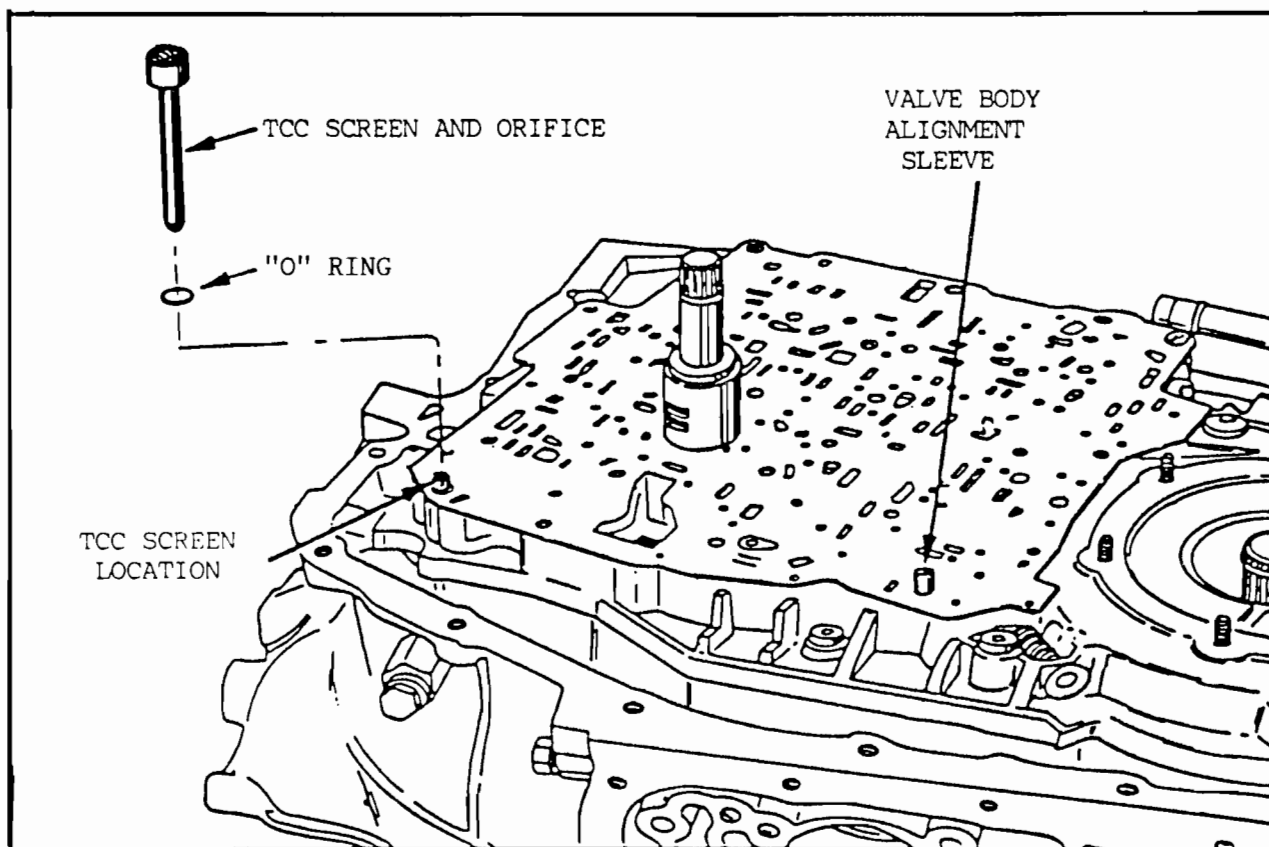
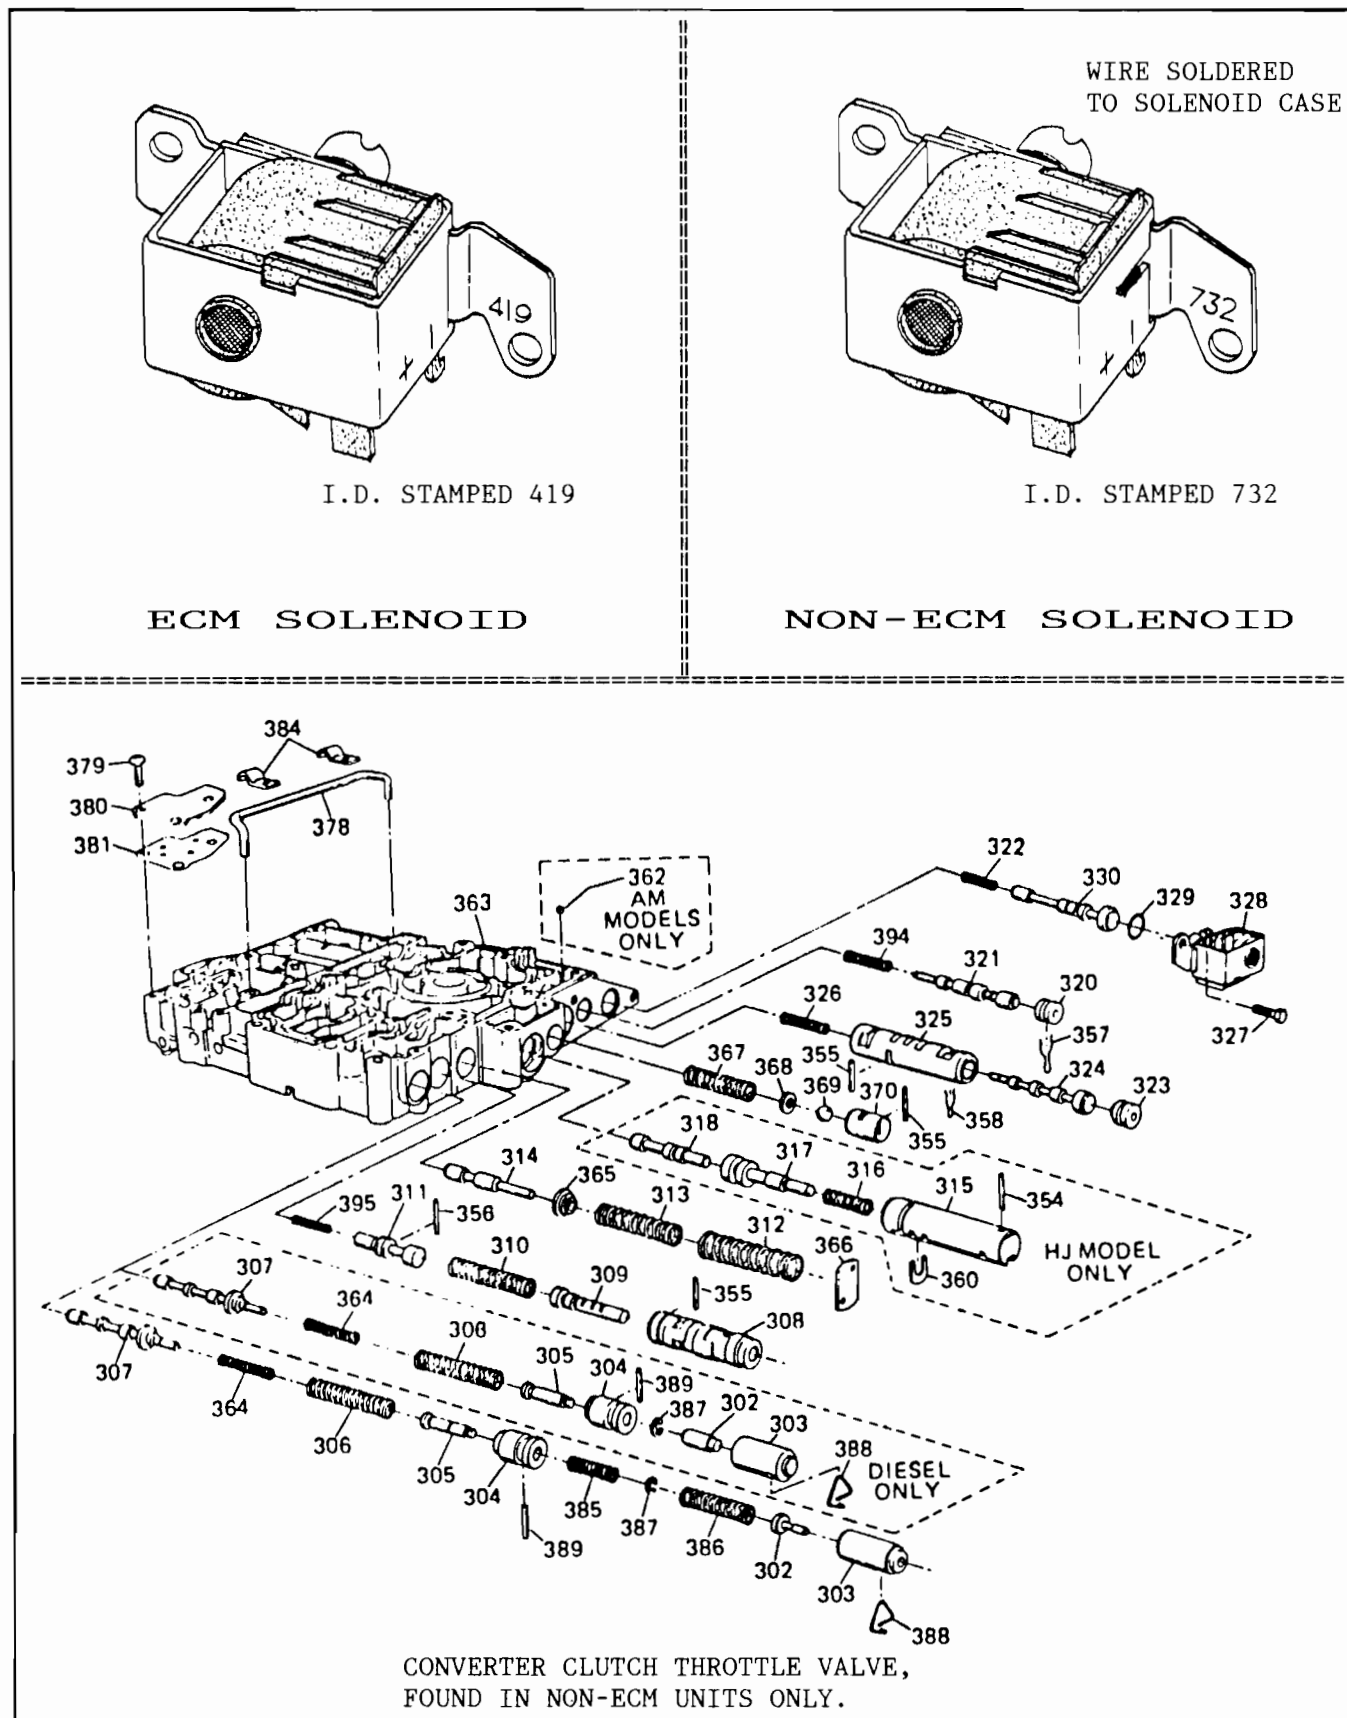

Figure 23
Figure 24
- (1) The TCC screen and orifice assembly missing from its location in the spacer plate (See Figure 23).
- (2) The TCC screen and orifice assembly "Melted" and usually found in the TCC solenoid, blocking the exhaust passage. Usually an aftermarket product, not OEM.
- (3) The TCC solenoid blocked with foreign material.
- (4) TCC solenoid for Canadian application, which is self grounded, installed on a computer controlled transaxle (See Figure 24).
CORRECTION: (1) Install the TCC screen and orifice assembly, with the "O" ring, in its proper location in spacer plate (See Figure 23).
- (2) Replace TCC screen and orifice assembly with OEM PART NUMBER 8658060, and replace TCC solenoid assembly with the proper part number.
- (3) Replace the TCC solenoid assembly with the proper part number.
- (4) Install the PROPER TCC solenoid assembly. If your valve body is equipped with the TCC Throttle Valve line-up, it requires the self grounded solenoid, I.D. stamped 732 (See Figure 24).
If your valve body is not equipped with the TCC Throttle Valve line-up, it requires the computer controlled solenoid, I.D. stamped 419 (See Figure 24).